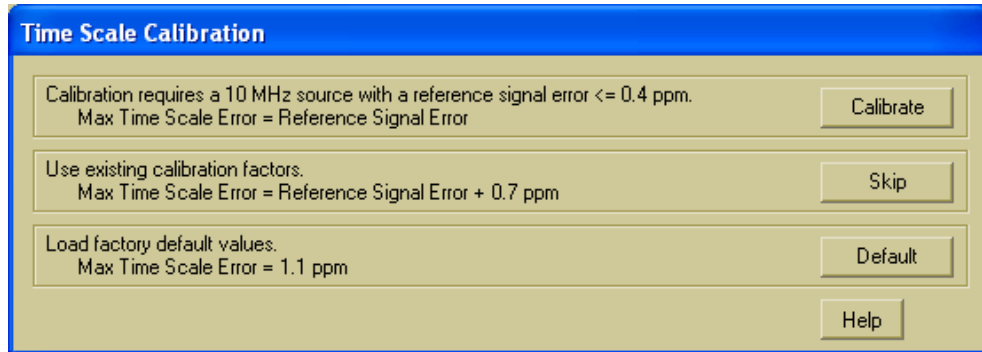

Figure 13 Time Scale Calibration Dialog box
- e Early during the calibration of channel 1, if you are prompted to perform a Time Scale Calibration, as shown in Figure 13 below.